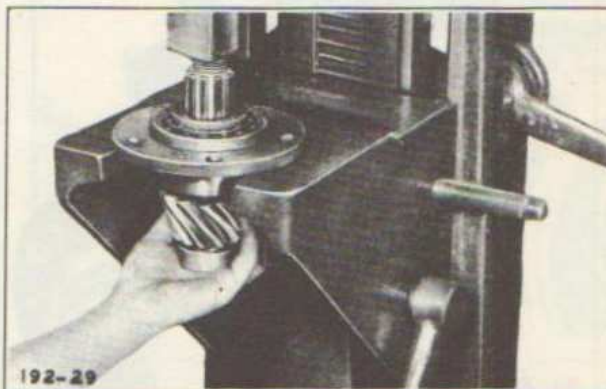

Fig. 22—Pressing Pinion Gear out of Bearings
Place retainer (22) in press with gear end downward. Press shank of pinion gear (26) out of bearing cone (30) and cup (31). (See Figure 22).